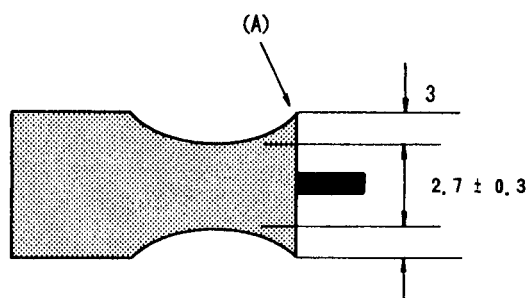

Fig. 4-5
- 11) Turn RT1 on the ATF-R jig so the waveform is shaped as shown in Fig. 4-5.
- 12) Adjust the voltage level control of the oscilloscope so that portion (A) of the waveform is set to 3 graduations.